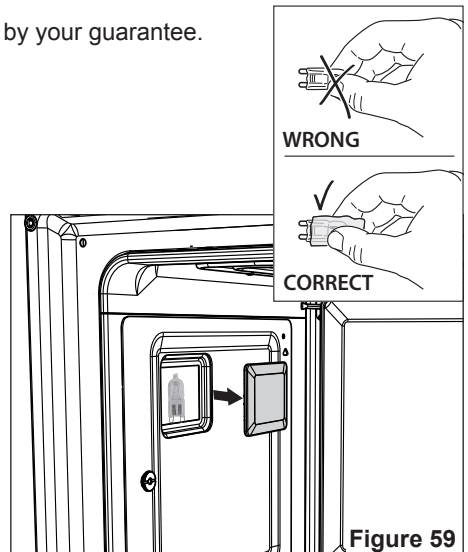

Figure 59
- Remove the protective cover (fig. 59).